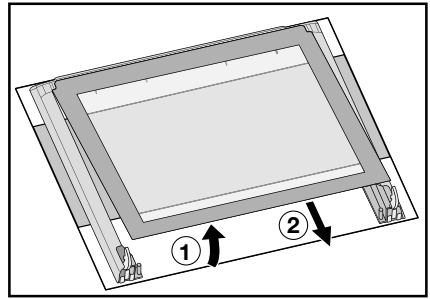

Fig. 30
10. Repeat the procedure described in point 9. for the middle pane marked by a decorative frame on 4 sides (Fig. 30).